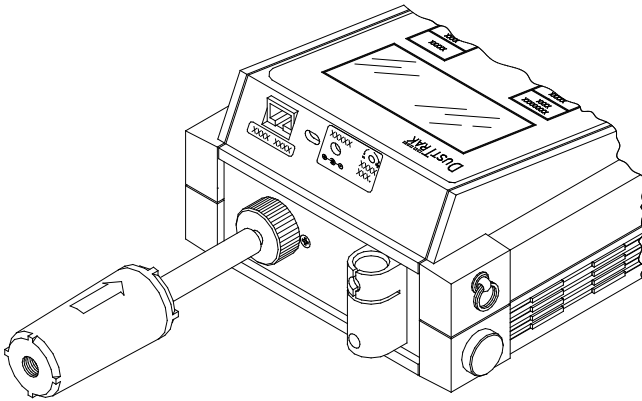

Figure 4–1: Zero Checking the DUSTTRAK Aerosol Monitor
2. Put zero filter on aerosol sample inlet. See Figure 4–1.